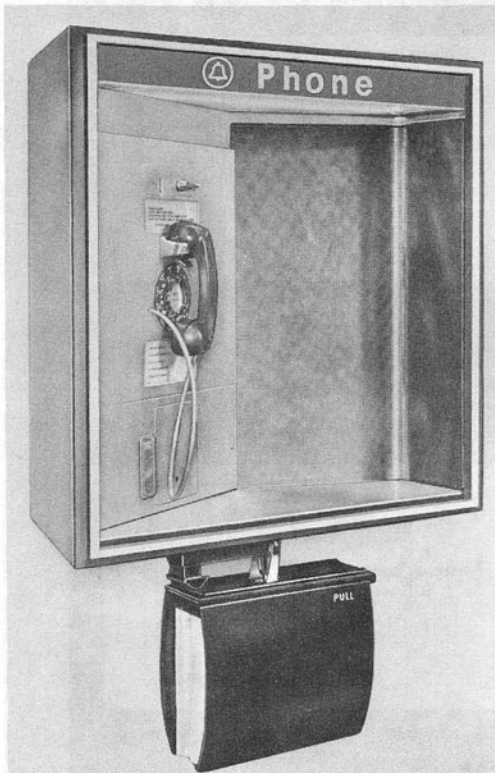

Fig. 1—KS-20194, List 1 Coin Telephone Shelf with
1.02 The KS-20194 coin telephone shelf (Fig. 1) is a wedge-shaped wall mount intended for indoor use only.
1.04 The wedge shelf is designed for mounting a 1A/1C/1E-type or 2A/2C-type coin telephone set or a 235/1235-type coin collector in either the left or right rear corner (Fig. 1 and 3).
- (a) KS-20030, List 5 directory hanger (Fig. 1):